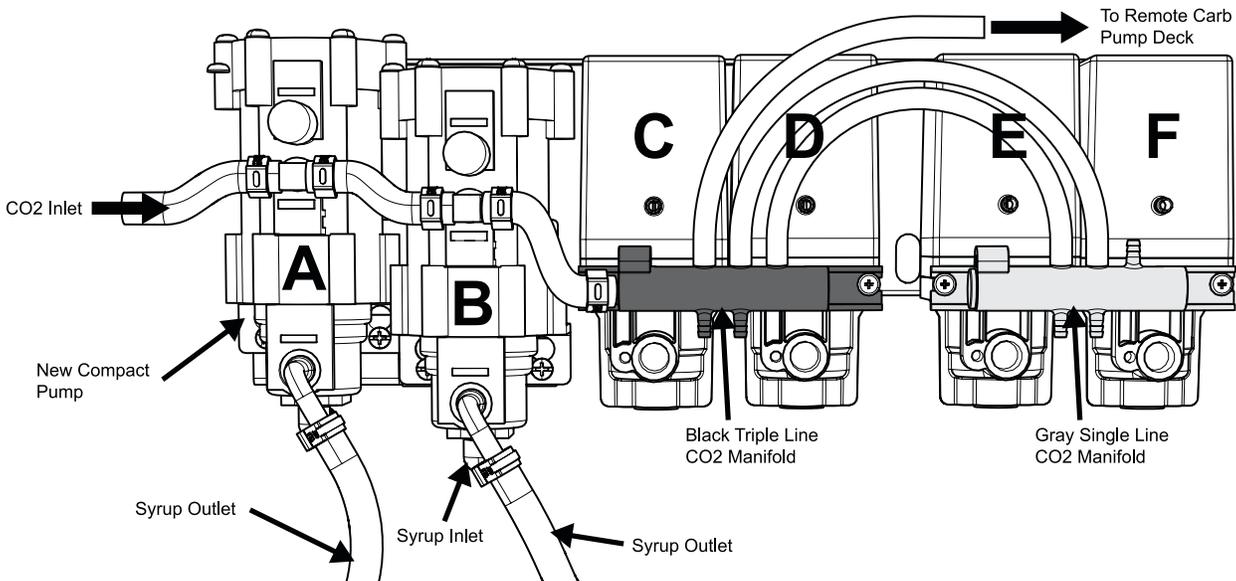

Figure 2
10. Remove the black CO₂ manifold on pumps A and B and re-install onto pumps C and D. (See Figure 2)
15. Connect CO₂ line routed from the CO₂ source to the new pump (A) CO₂ inlet.
17. Route CO₂ line from the CO₂ quick connect inlet on the second pump (B) to the elbow inlet connection on the black CO₂ manifold on pumps C and D.